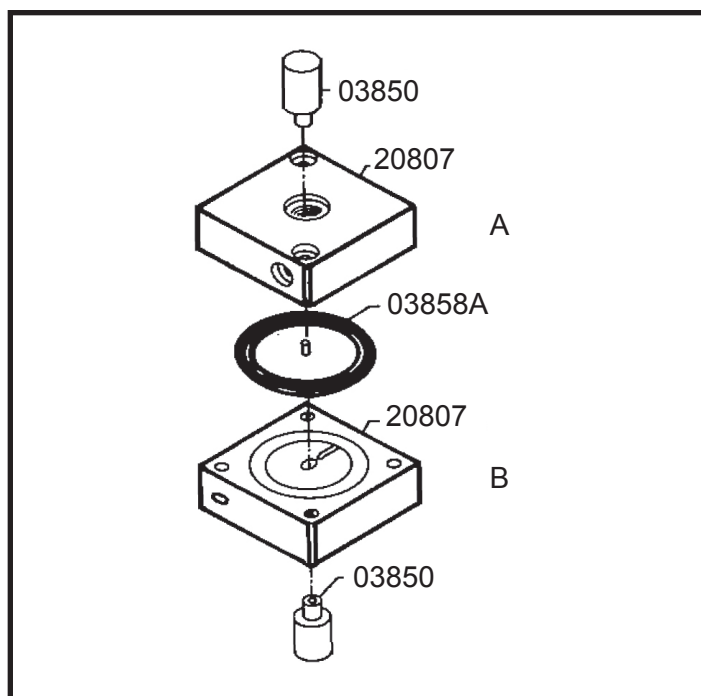

Figure 9
B. Disassembly/Reassembly Procedure (Figure 9 and 10)